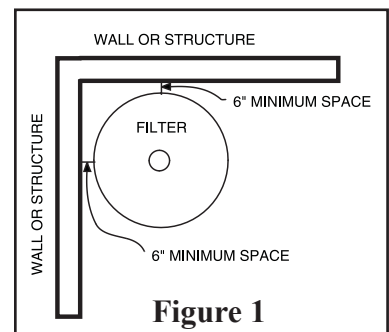

Figure 1
2. Install electrical controls (e.g., on/off switches, timers control systems, etc.) at least five (5) feet from the filter. This will allow you enough room to stand clear of the filter during system start up.
3. Provide sufficient clearance around the filter to permit visual verification that the clamp is properly installed, see Figure 1.